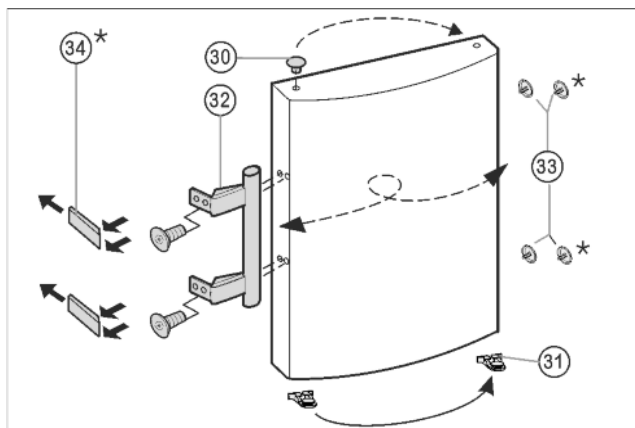

Fig. 9
- ▶ Lift the stopper Fig. 9 (30) out of the door bearing bush and transfer it.
- ▶ Detach door handle Fig. 9 (32), stopper Fig. 9 (33) and pressure plates Fig. 9 (34) and transfer to the opposite side.